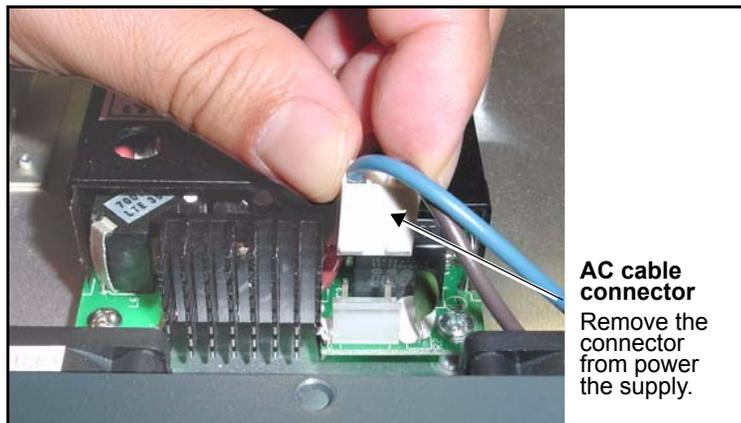

Figure C-44. Removing AC Cable from Power Supply
4. Disconnect the polarized AC cables from the power supply. (See Figure C-44.)